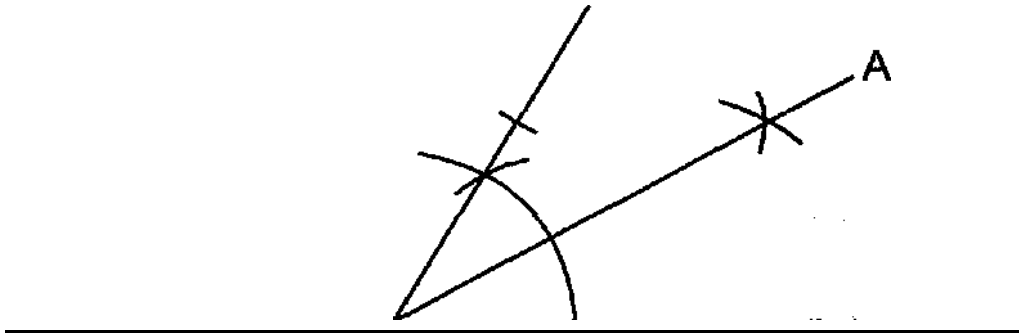

Fig. 4.2
**To construct an Angle of  $30^\circ$  (See Fig 4.2)**